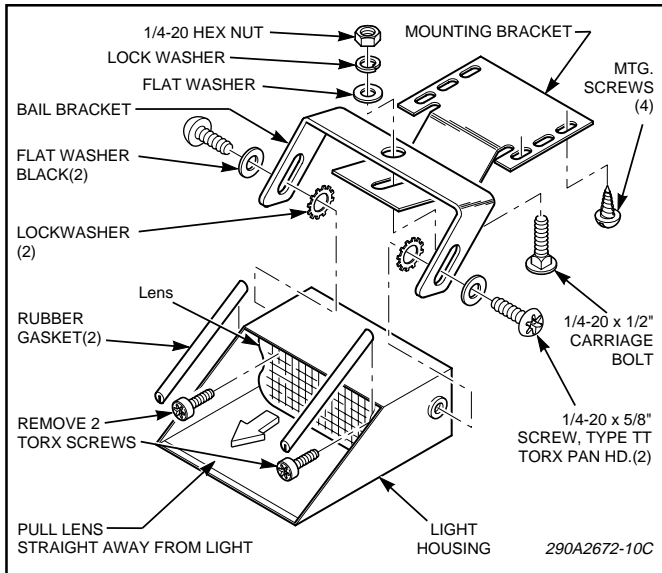

Figure 3.
6. See figure 3. Assemble the bail bracket to the light assembly using the two 1/4" x 5/8" pan head screws, external tooth lockwashers, and black flat washers. Do not tighten the screws at this time. Cut the rubber gaskets to length and assemble to the sides of the light assembly as shown in figure 3.
7. See figure 3. Assemble the light assembly/bail bracket to the mounting bracket's center slot using the 1/4-20 carriage bolt, flat washer, split lockwasher, and 1/4-20 nut. Do not tighten the nut at this time.
- b. Remove and retain the two screws and lockwashers which secure the light assembly to the mounting bracket (see figure 3).